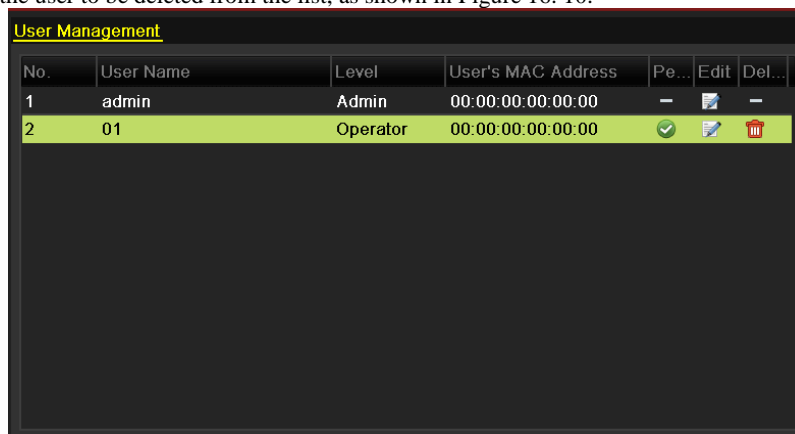

Figure 16. 10 User List
2. Select the user to be deleted from the list, as shown in Figure 16. 10.